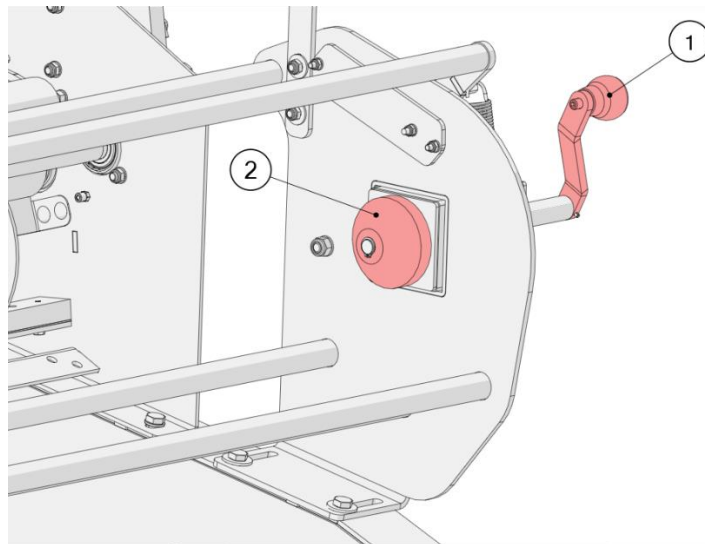

Figure 21. Inserting the net
- Turn the crank (1) until the spindle (2) stops (Figure 21);
- By turning the crank, slide the spindle (2) into the sleeve of the net reel until you feel a slight resistance. This will ensure free rotation of the net reel;
- use the crank (1) to loosen the spindle, correct the position of the net reel, turn the crank again to slide the spindle into the net reel's sleeve until you feel a slight resistance.